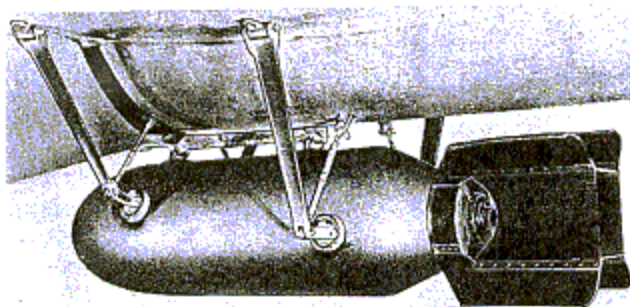

Figure 303—300-Pound Bomb Loaded
(2) **TO LOAD THE 300-POUND BOMB.** (See figure 303.)